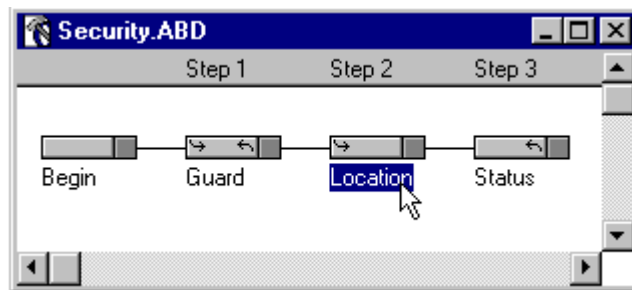
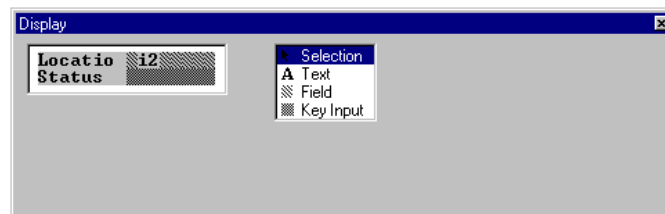

Figure 3-68 Security Application - “Location” Handler
Figure 3-69 “Location” Handler Display
58. Click the “Location” Handler (Figure 3-68) to select it. The generated display is shown in the **Display** window (Figure 3-69). The generated display shows the location on the first line and asks for the status of the location on the second line.